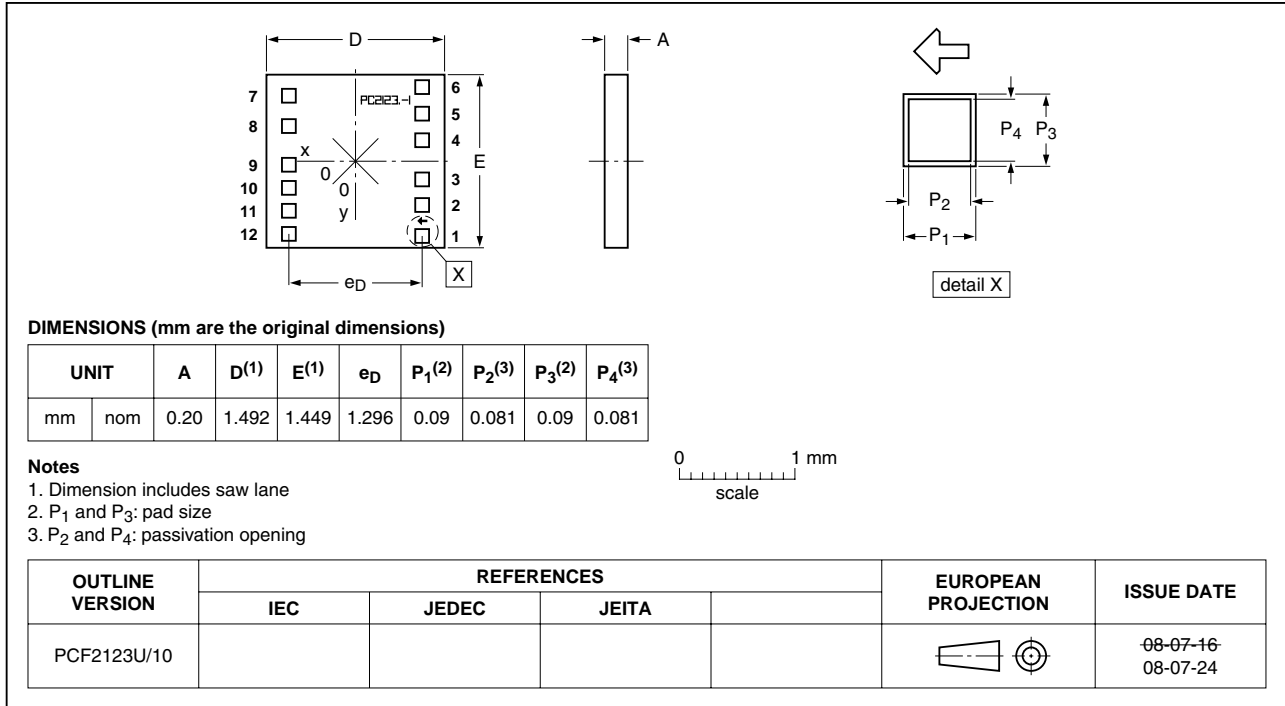
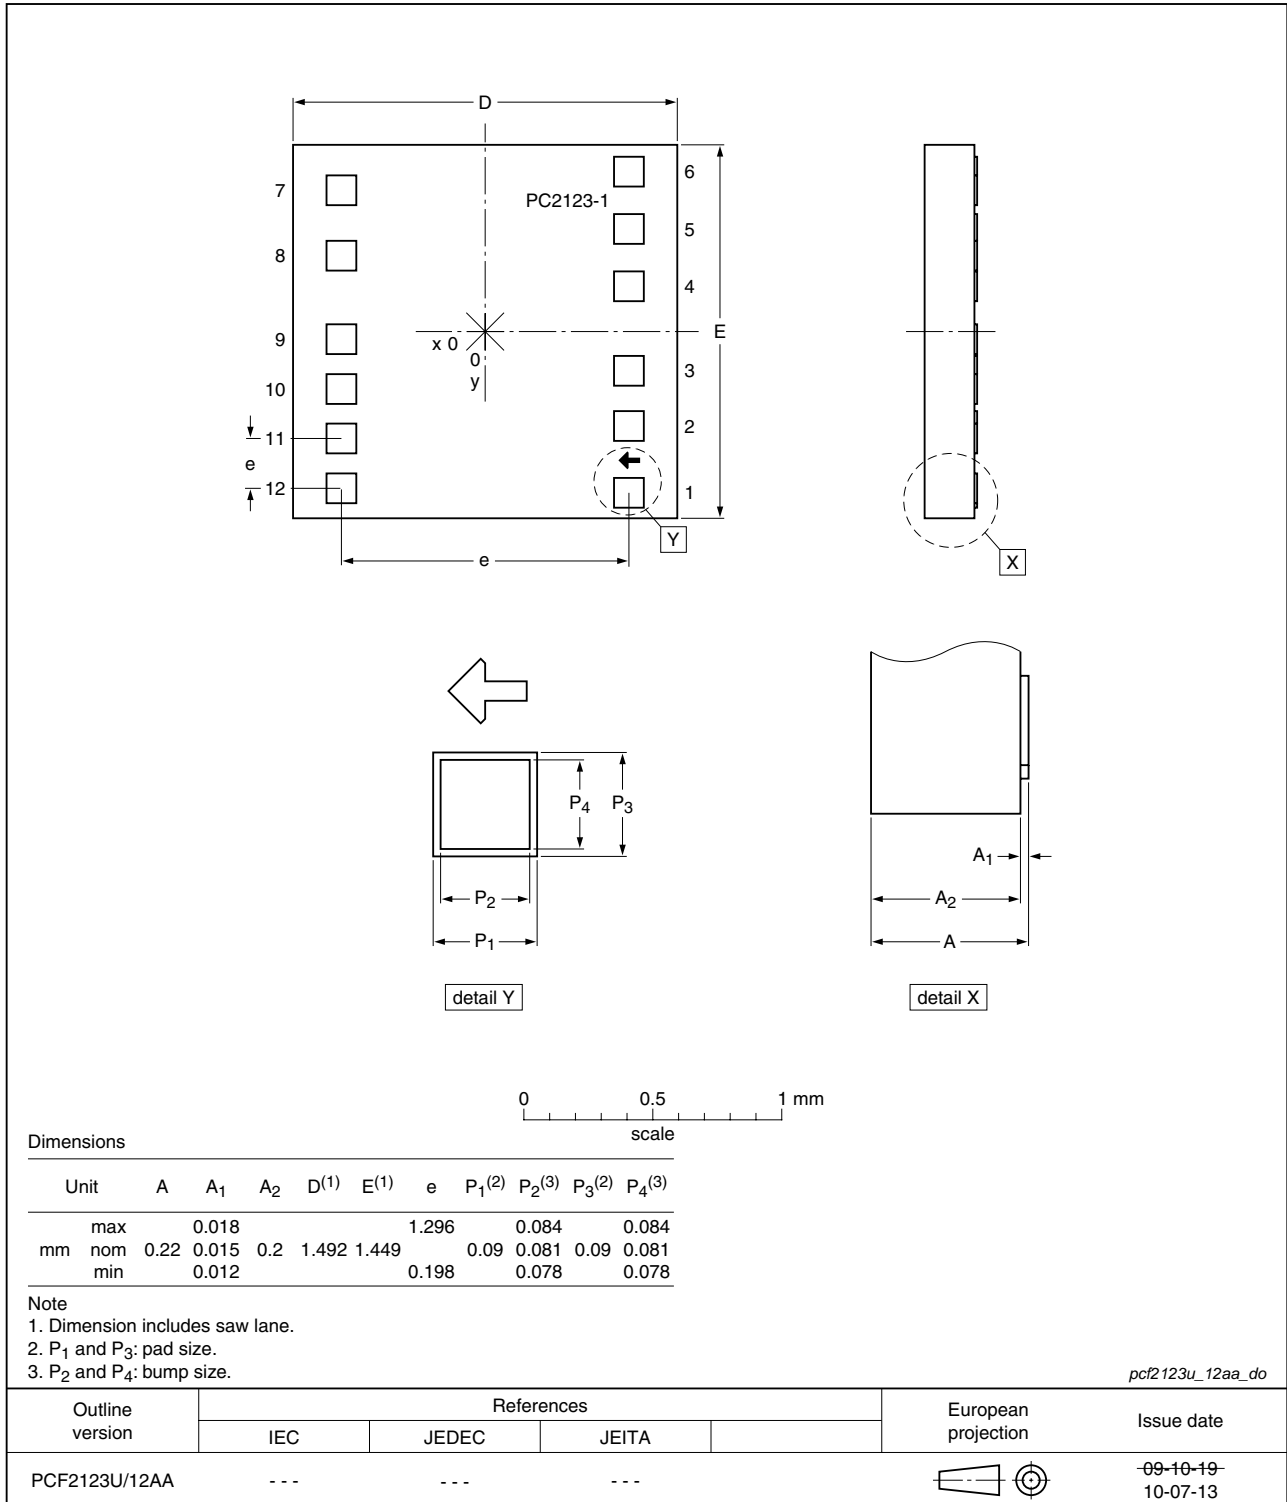
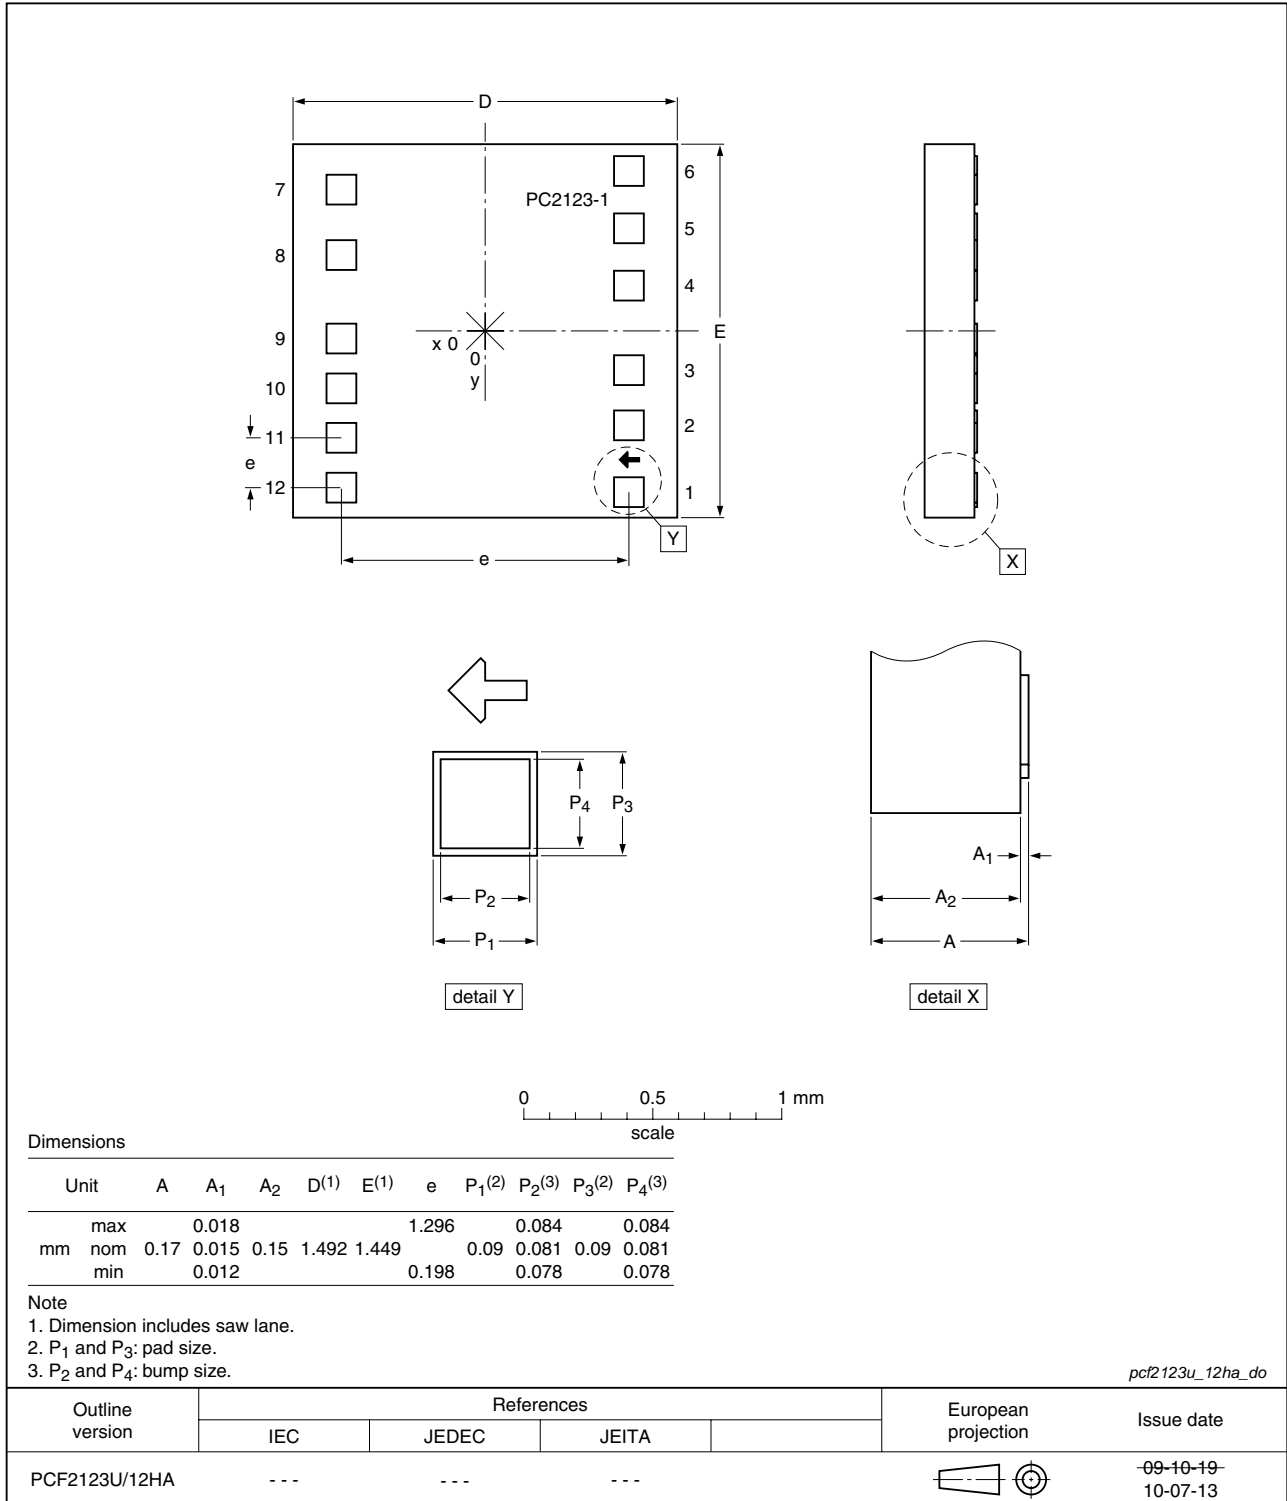
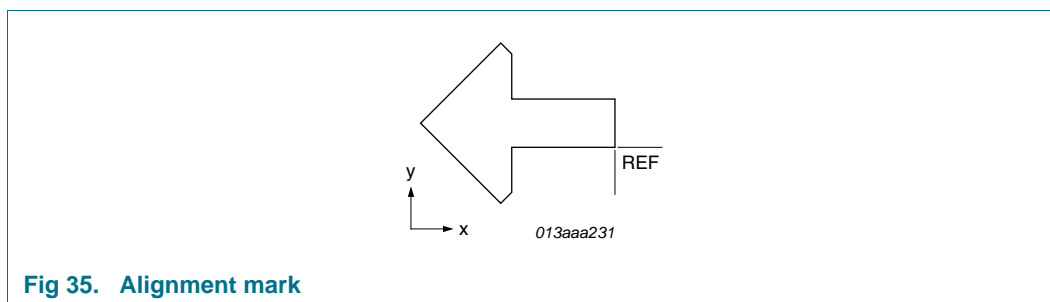

Fig 32. Bare die outline of PCF2123U/10AA/1
Fig 33. Bare die outline of PCF2123U/12AA/1
Fig 34. Bare die outline of PCF2123U/12HA/1
Fig 35. Alignment mark
All x/y coordinates represent the position of the center of each pad with respect to the center (x/y = 0) of the chip; see Figure 32.
All x/y coordinates represent the position of the center of each pad with respect to the center (x/y = 0) of the chip; see Figure 33 and Figure 34.
- [1] The x/y coordinates of the alignment mark location represent the position of the REF point (see Figure 35) with respect to the center (x/y = 0) of the chip; see Figure 32 and Figure 33.
- [2] The x/y values of the dimensions represent the extensions of the alignment mark in direction of the coordinate axis (see Figure 35).